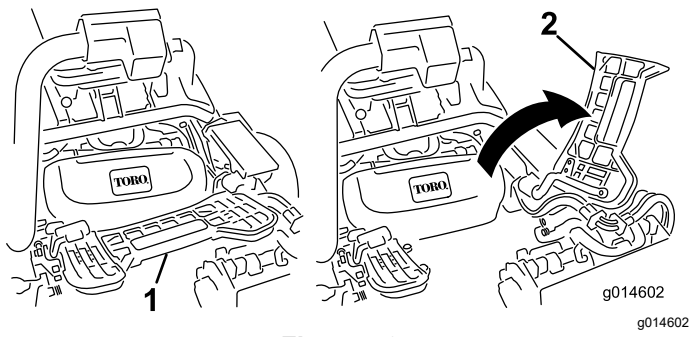

Figure 53
2. Lift up on the foot rest and swing it open, allowing access to the center cutting unit position (Figure 53).